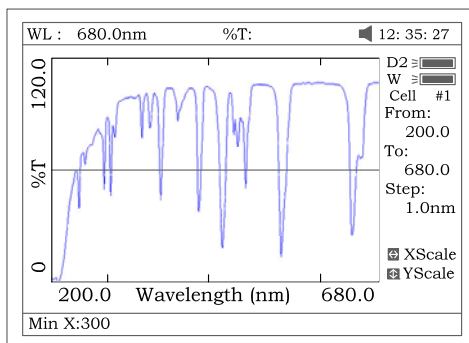
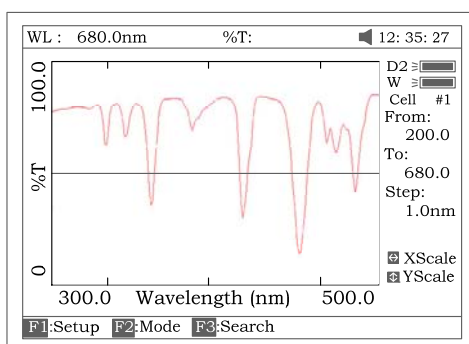

Fig47
Fig 48
- If you want to change the scale, press **[<]** or **[>]** to change “x” scale (Fig 47), input upper limit and lower limit by pressing the numeric keypad. To change “y” scale press **[^]** or **[v]**. After these inputs the instrument will redraw the curve (Fig 48).
Press [**SAVE**] to save the curve. Note: Load/Save requires the first scan display page Fig 48. Press **ESC** if in Search to return to the required page